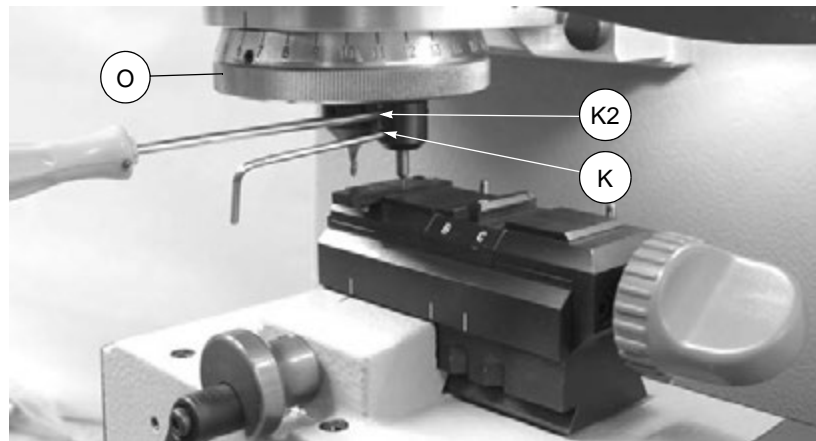

Fig. 42
- Loosen the grub screw (K) (fig. 42) only slightly so that the decoder does not fall out.